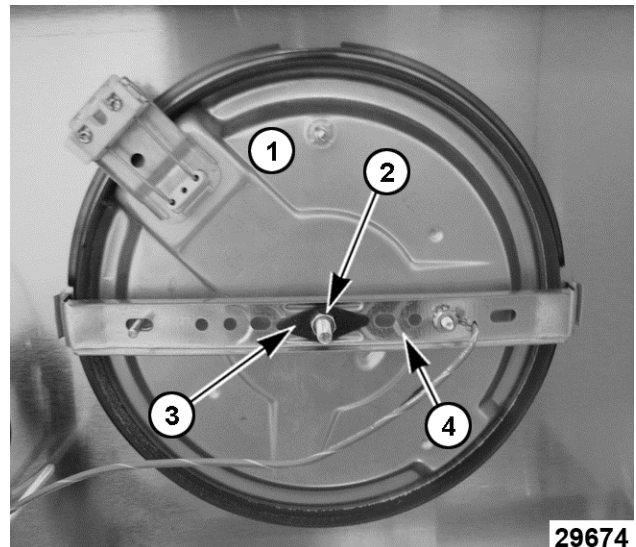

Fig. 21
3. Support the French Plate (1, Fig. 21).
- A. Remove the nut, spring washer, and locking bracket (2, 3, 4 Fig. 21).